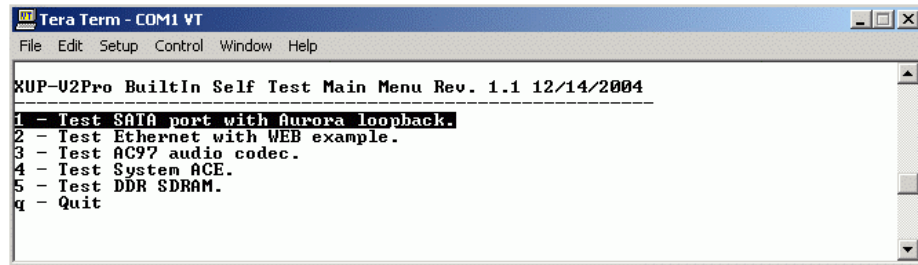

Figure D-5: Selecting the SATA Port Tests
6. The user is prompted to select which loop to test (Figure D-5).